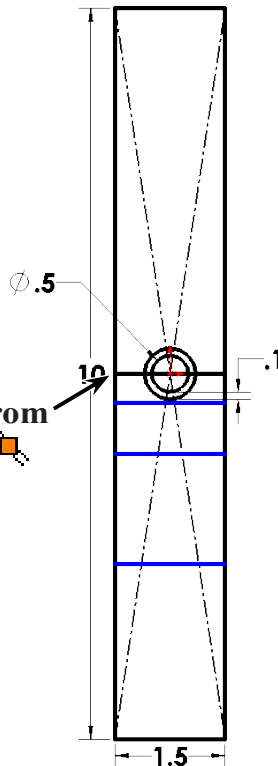

Fig. 6
Step 1. Click **Line**  (L) on the Sketch toolbar.
Step 2. Draw **4 horizontal lines** across sketch, **Fig. 6**.